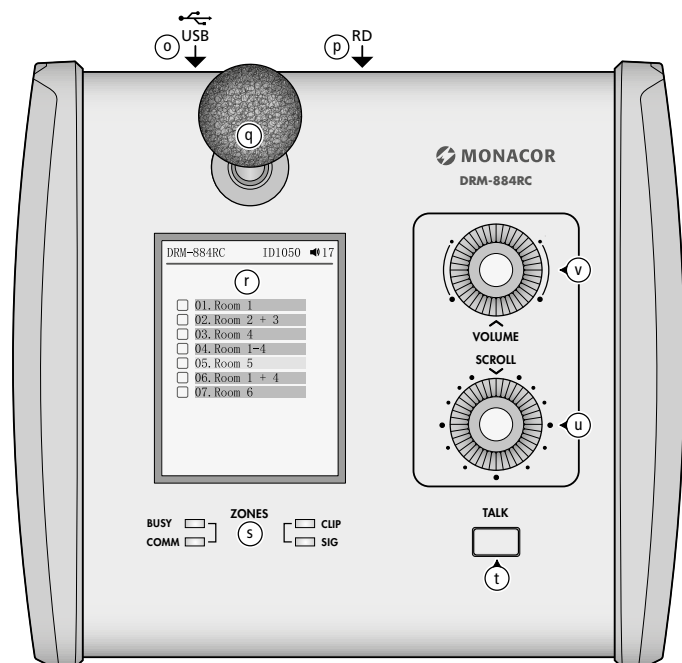

Fig. 32 DRM-884RC
- 1) Disconnect the microphone DRM-884RC (fig. 32) from the master device DRM-884.